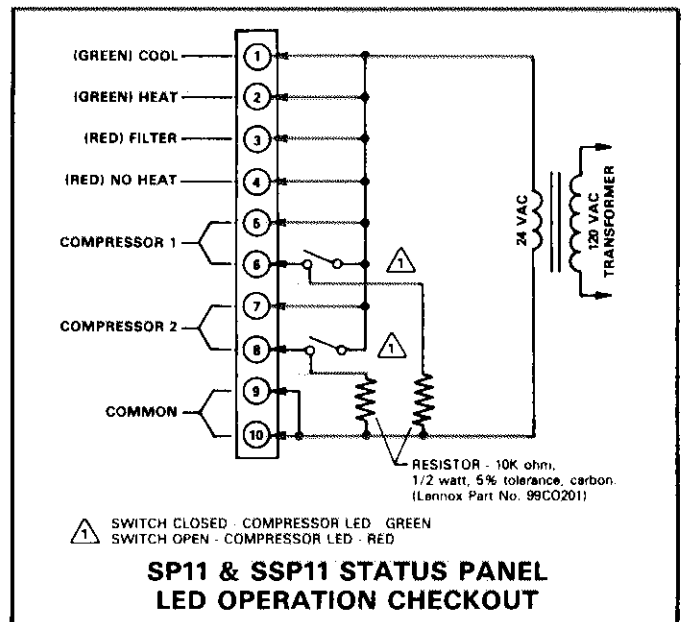

FIGURE 52
- 2 - Refer to Figure 52 and wire the circuit shown to the 1 to 10 terminal strip on back of status panel. No other wiring should be connected to the panel when making this test. Be sure the back of panel does not touch anything that could short components or terminals when bench testing.